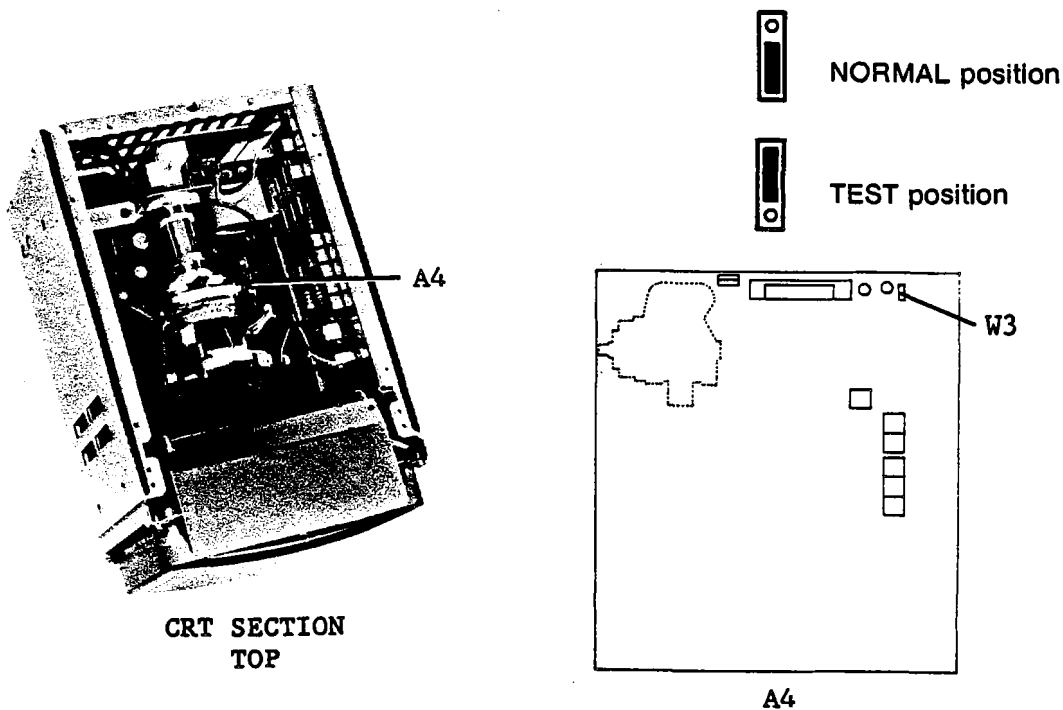

Figure 3-21. CRT Cutoff Test Jumper Locations
3. Set jumper A4W3 to the **TEST** position as shown in Figure 3-21.
10. Reset jumper A4W3 to the **NORMAL** position as shown in Figure 3-21.